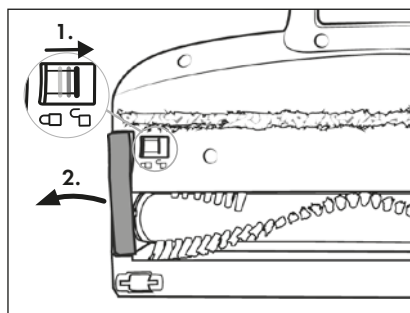

Fig. 24
① Note
- 2) Unlock the rotary brush **21** by sliding the rotary brush release **19** with your finger towards the symbol  (open). Remove the rotary brush holder **20** from the floor brush **22** (see Fig. 24).